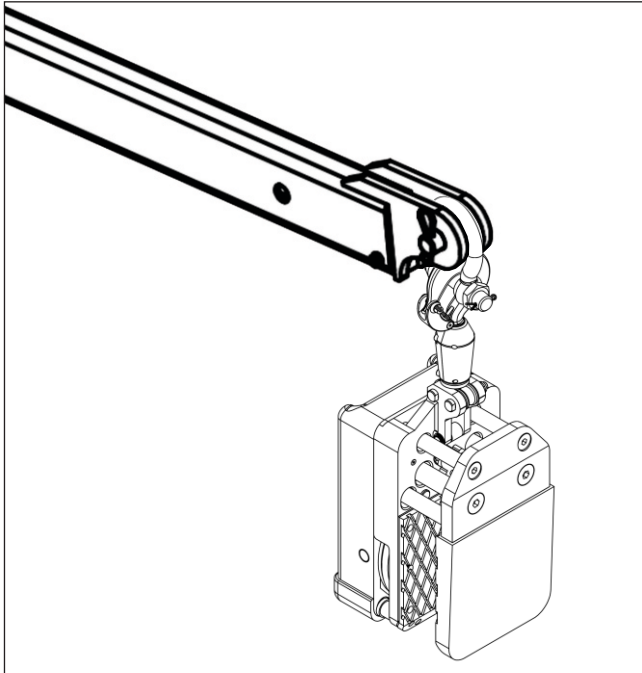

Figure 1.1
Step 1: Hook the Stone Crab Lifter Automatic to a forklift boom or to a crane hook (Figure 1.1).